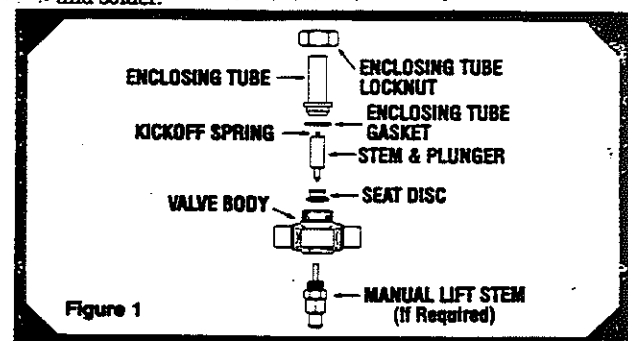

Figure 1
4. Re-assemble as follows, see Figures 1, 5, and 5A: